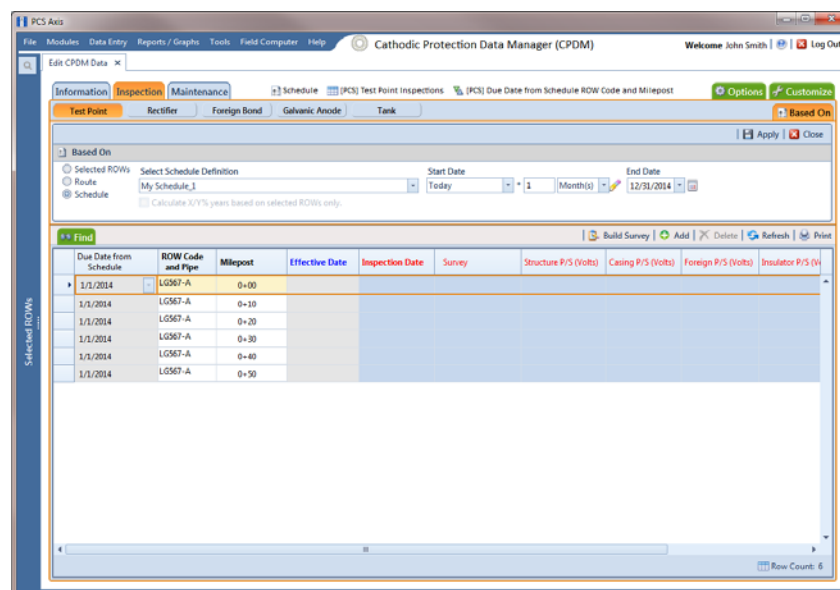

Figure 7-47. Based On Schedule
- 8 To set a schedule date range using dynamic start and end dates, follow these steps (Figure 7-47):